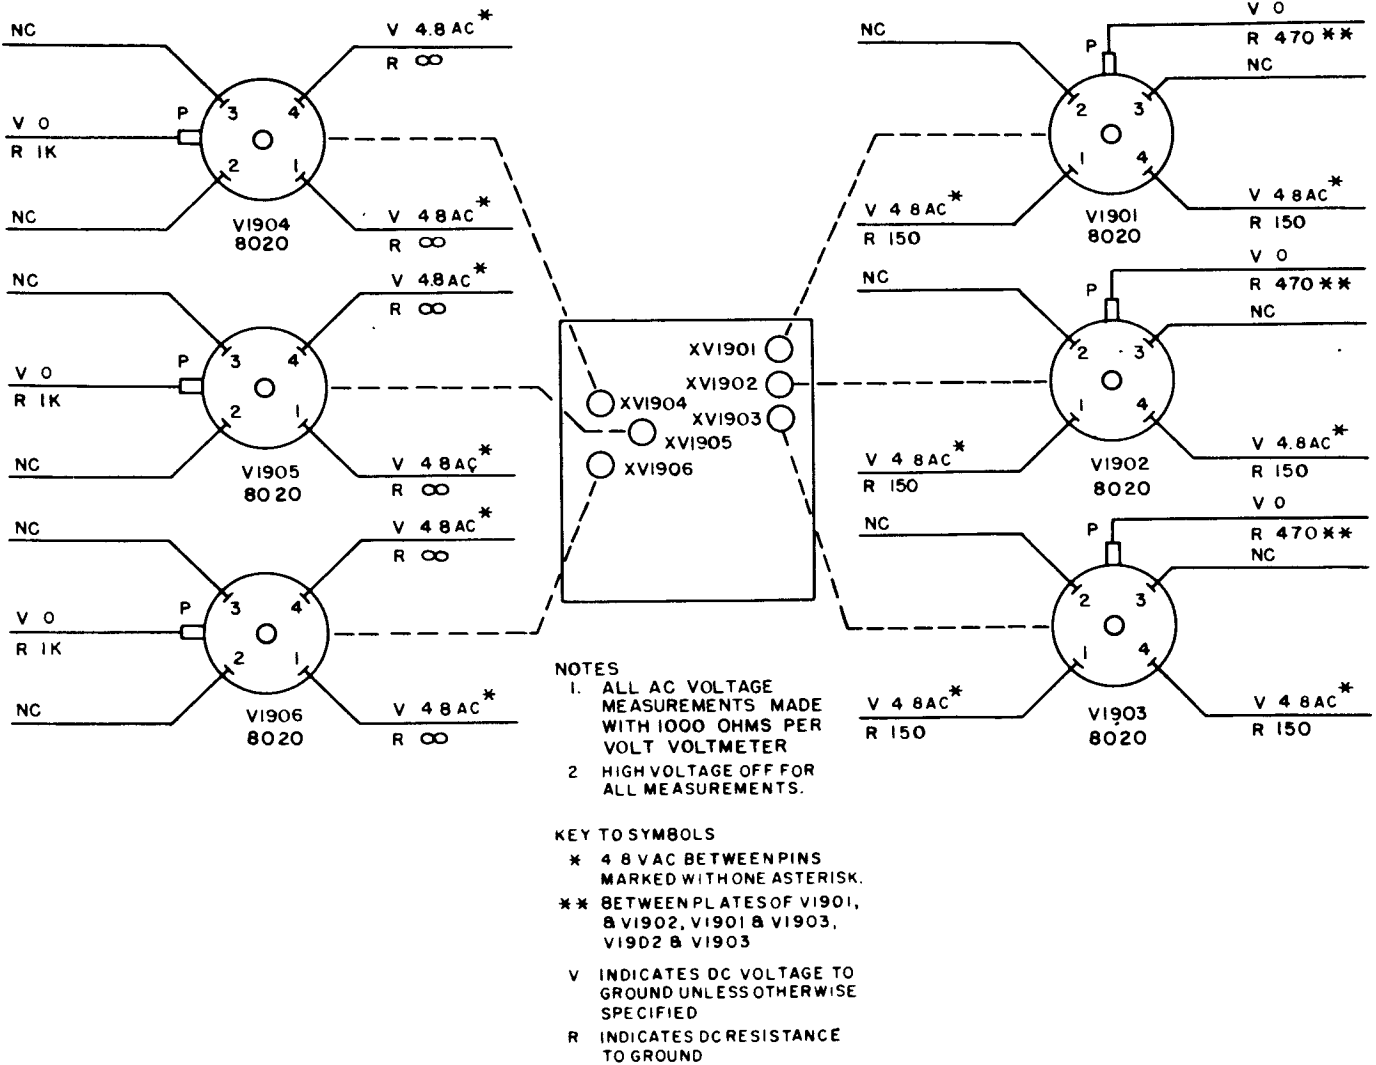

Figure 5-24. High-Voltage Power Supply PP-1763/URN, Tube Socket Voltage and Resistance Diagram
7. Figure 5-24. High-Voltage Power Supply, Tube Socket Voltage and Resistance Diagram